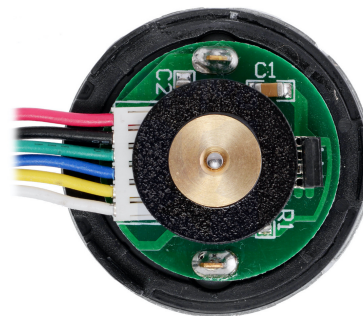

Figure 4: 12V DC Motor with 18.75:1 gearbox and encoder pinout.
- (c) Connect the single motor on your test bench and its encoder (Fig. 4) to the FRDM/shield assembly as well.